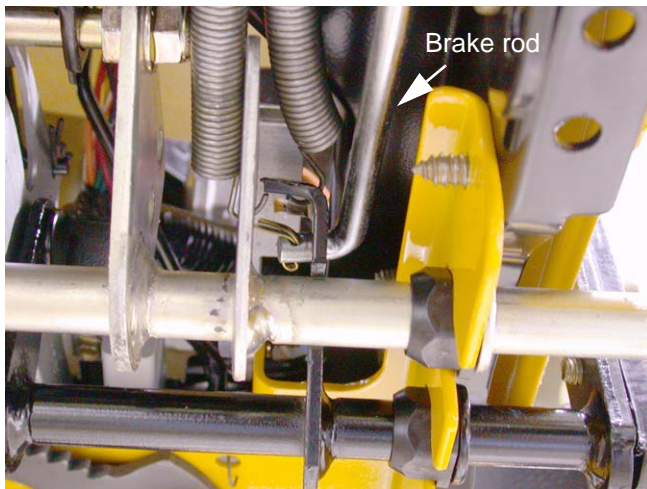

Figure 20.5
- 20.5. The brake rod must be disconnected to remove the outboard brake pedal shaft bushing. Remove and discard the cotter pin that holds the brake rod to the brake pedal shaft. See Figure 20.5.